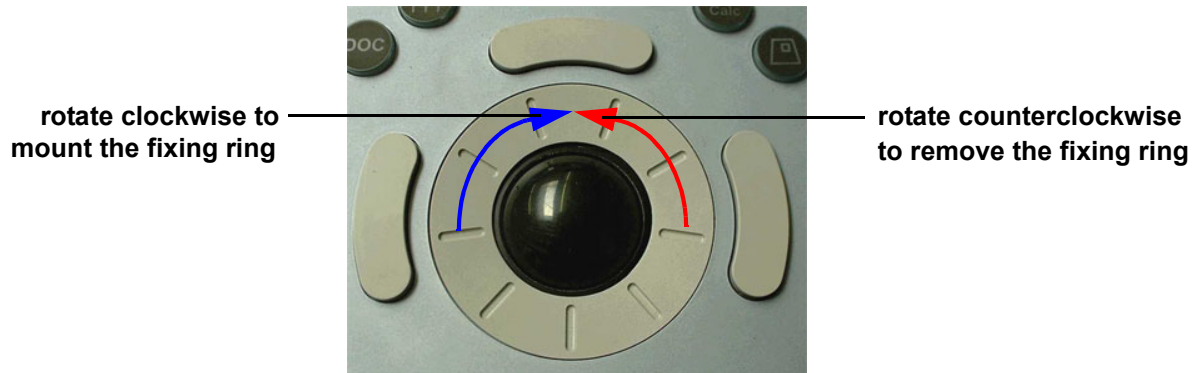

Figure 6-5 Trackball with fixing ring
- 3.) Mount the outer fixing ring by turning it clockwise. see Figure 6-5